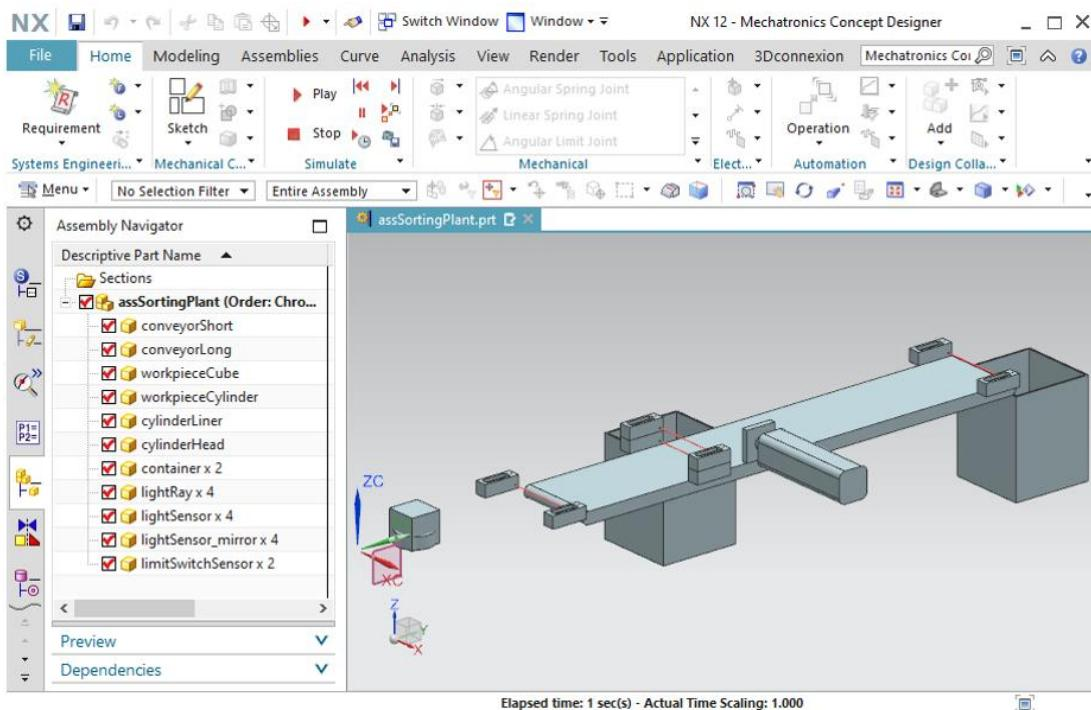

Figure 12: Simulation of a rigid body in MCD
- Start a simulation as explained in Chapter 7.1, "Section: Starting and stopping a simulation in MCD". You should notice that the "conveyorShort" conveyor belt falls down when the simulation starts. By defining the conveyor belt as a rigid body, it is assigned a mass. Due to gravitational forces, the conveyor belt falls down in the simulation, as shown in Figure 12. Stop the simulation again.